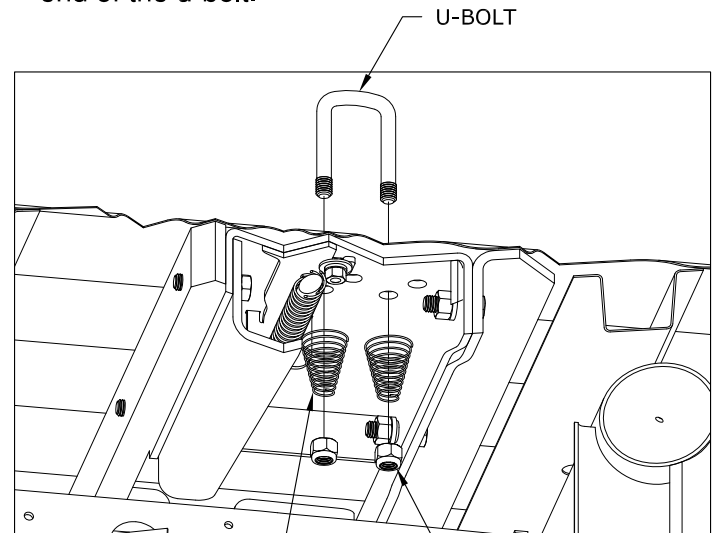

FIGURE G3: Cut away view of bed and center section
3. **Add springs.** Place a conical spring over each leg of the u-bolts and secure with a  $\frac{1}{2}$ " lock nut, see figure G3 Tighten the lock nut until the nut is flush with the end of the u-bolt.